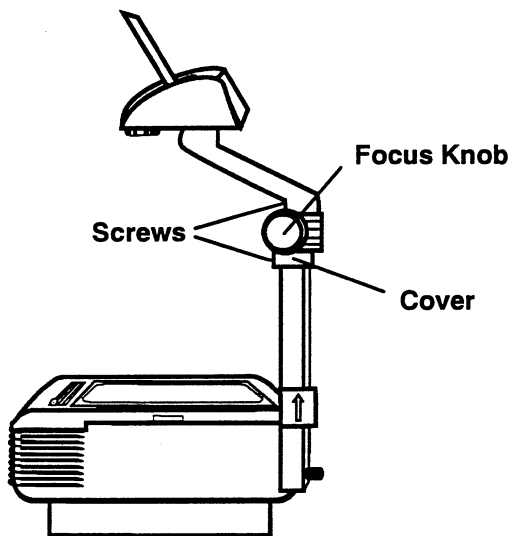

Figure 4-12. Adjusting Focus Mechanism
1. Unscrew focus cover retaining screws and remove the access cover. Figure 4-12.